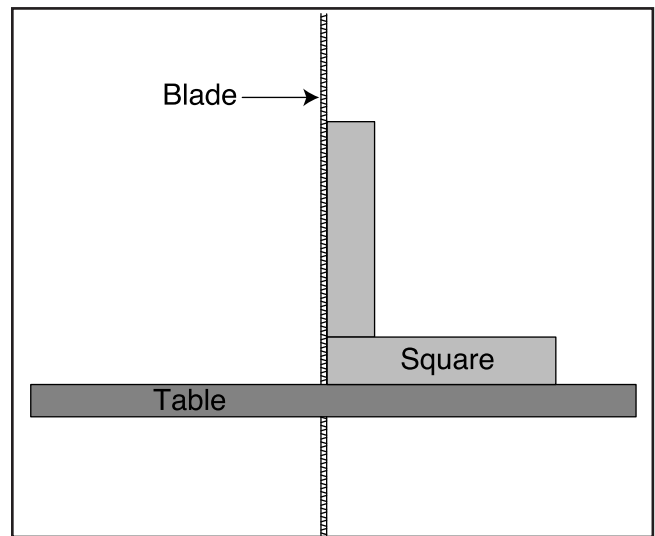

Figure 20. Squaring table to blade.
3. Raise the upper blade guide assembly and place a 6" machinist's square on the table against the blade as shown in **Figure 20**. Notice how far out of square your table is and approximate this distance by adjusting the positive stop up or down. Turning the positive stop counterclockwise will raise it and clockwise will lower it. Adjust the positive stop so the table will stop at a 90° angle (square) to the blade.